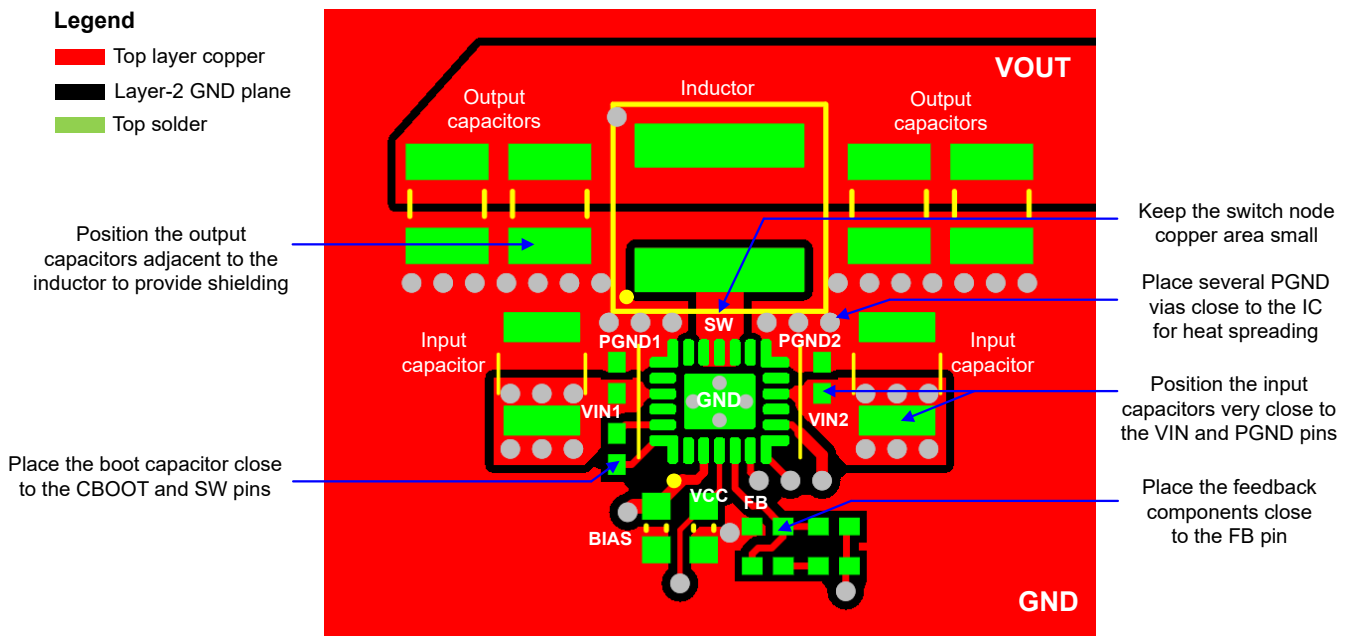

Figure 8-22. PCB Layout Example
The following list summarizes the essential guidelines for PCB layout and component placement to optimize DC/DC converter performance, including thermals and EMI signature. Figure 8-22 shows a recommended layout of either the LM64440-Q1 or LM64460-Q1 with optimized placement and routing of the power-stage and small-signal components.
- Use low-ESR ceramic capacitors with X7R or X7S dielectric from VIN1 to PGND1 and VIN2 to PGND2. Place an 0402 capacitor close to each pin pair for high-frequency bypass as shown in Figure 8-22. Use an adjacent 1206 or 1210 capacitor on each side for bulk capacitance.